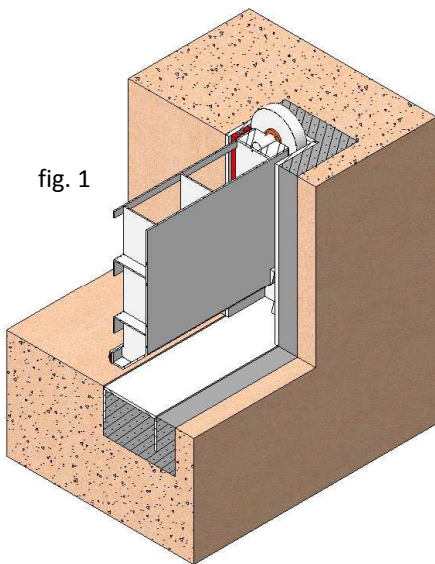

fig. 1
Since these **VM** penstocks are often large-sized and designed for high volumes of water, the most common system (recommended by CMO) is concreted assembly (fig. 1). In this assembly option, a series of gaps in the civil engineering work are used to insert the body of the **VM** penstock, with the housings then being filled with a second layer of concrete.
- To mount the penstock concreted (fig. 1) follow these steps: